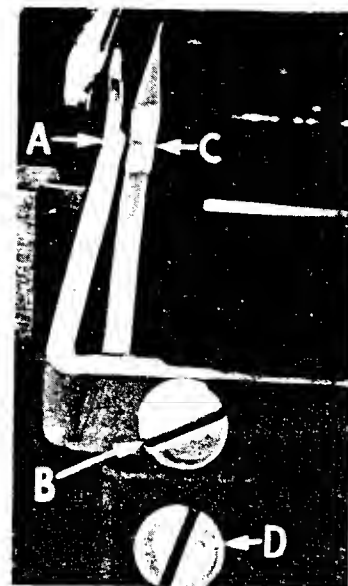

Fig. 6
Set rear needle guard (A, Fig. 6) as high as possible, without interfering with either lower looper or movement of lower knife holder, but still in position to deflect needle forward .002-.004 inch (.051-.102 mm). Screw (B) is used to set rear needle guard. Make sure there is no interference between rear needle guard and lower looper.
Assemble front needle guard (C, Fig. 6). When lower looper is springing needle off backguard, set front needle guard as close as possible to needle without touching. Screw (D) is used to adjust and set front needle guard. After this setting make sure there is no interference between needle guards and differential feed dog.